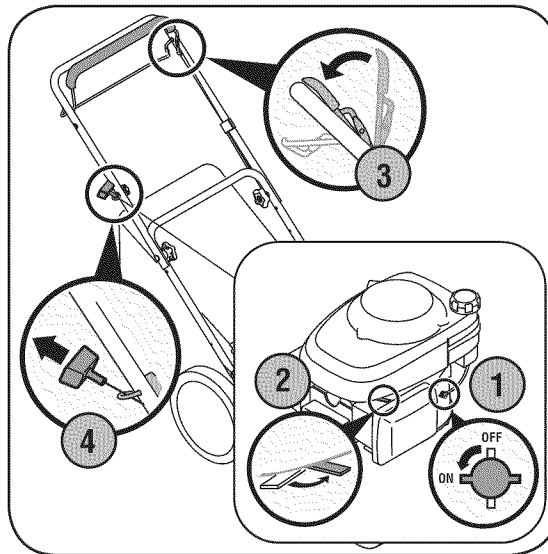

Figure 4-2: Steps involved in starting the mower.
1. Place the fuel valve lever found on the left side of the engine into the ON (OPEN) position, Figure 4-2.
3. Standing behind the mower, squeeze the blade control against upper handle, Figure 4-2. The choke will now begin to slowly return to the off choke position after activating the blade control. Therefore, quickly move onto step four below.
4. Holding these two handles together firmly, grasp recoil starter handle and pull rope out with a rapid, continuous, full arm stroke, Figure 4-2. Keeping a firm grip on the starter handle let the rope rewind slowly. Repeat until engine cranks. Let the rope rewind each time slowly.